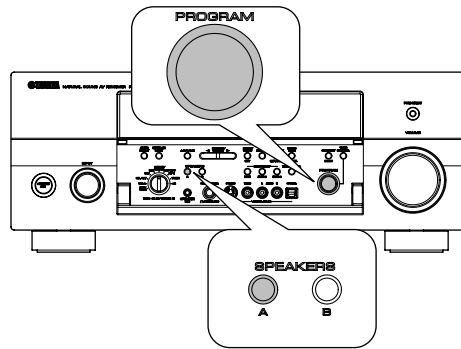

Fig. 6
f. While pressing the "SPEAKERS A" key of the main unit, turn the "PROGRAM" knob until "Upgrade Main" is displayed. (Fig. 6)
f. 本体の“SPEAKERS A”キーを押しながら“PROGRAM”ツマミを回し“Upgrade Main”をディスプレイに表示させます。(Fig. 6)